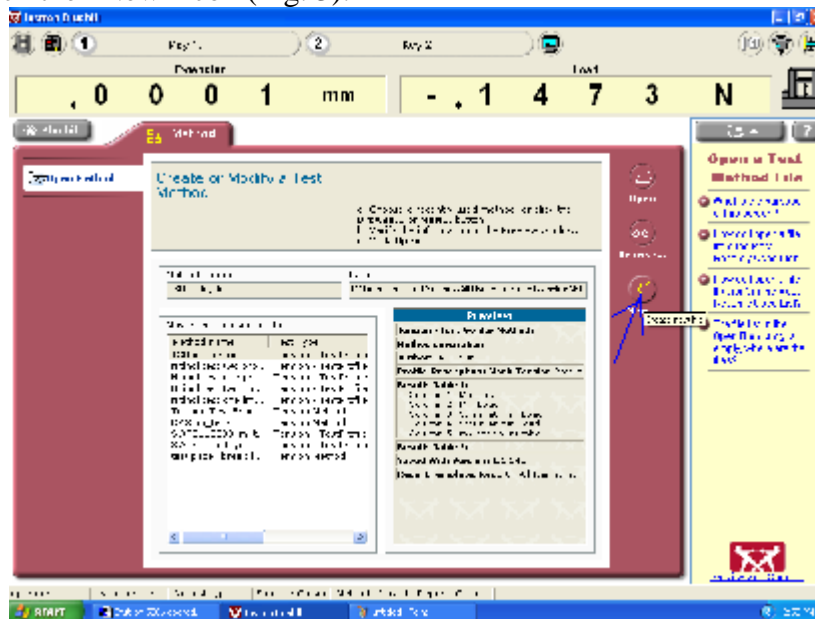

Figure 3: Method File Screen
2. Click the “New” icon (Fig. 3).